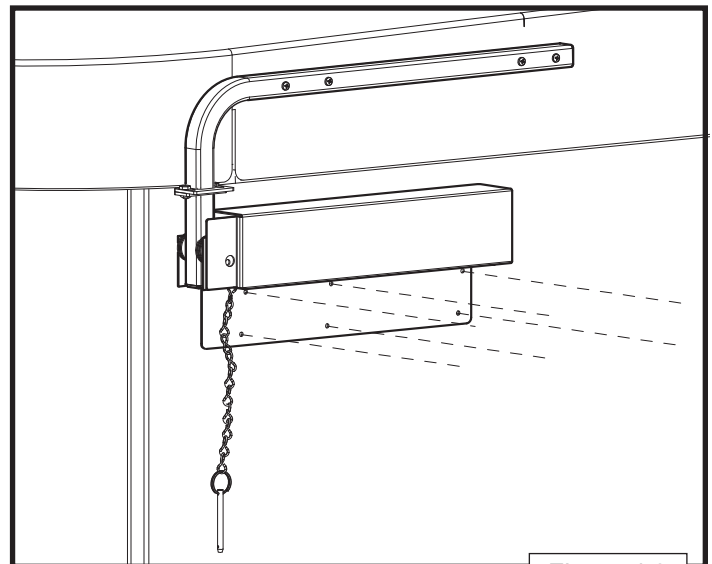

Figure 4.3
3. While holding the main assembly in place, mark all (6) holes located on the bottom part of main assembly (Figure 4.3)
4. While holding the main assembly in place, drill all (6) marked holes using a 1/8" (3 mm) bit into the spa cabinet at a depth of 1/2" (12.5 mm) (Figure 4.3).